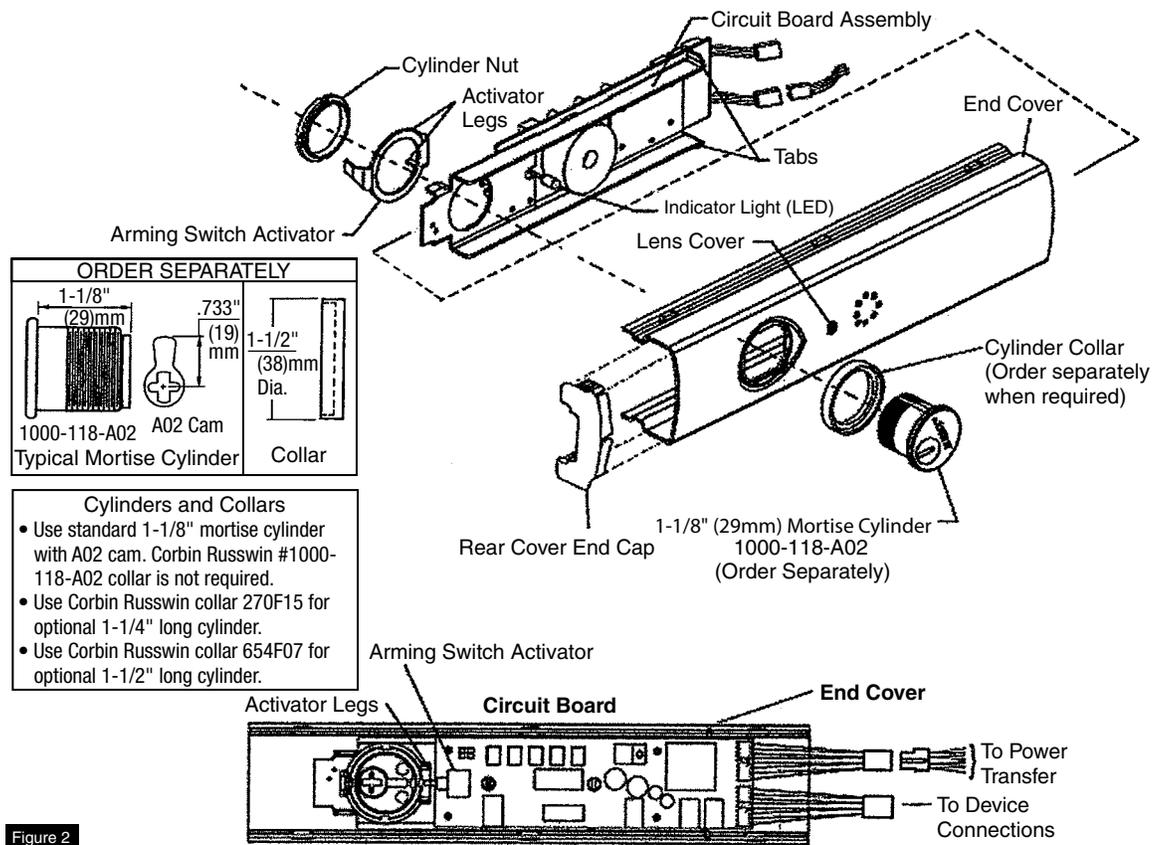

Figure 2
- Slide circuit board assembly into end cover. Front of assembly must be pulled away from cover to prevent damage to LED indicator light. Housing assembly is in correct position when LED can be inserted in lens cover on end cover. (Figure 2)